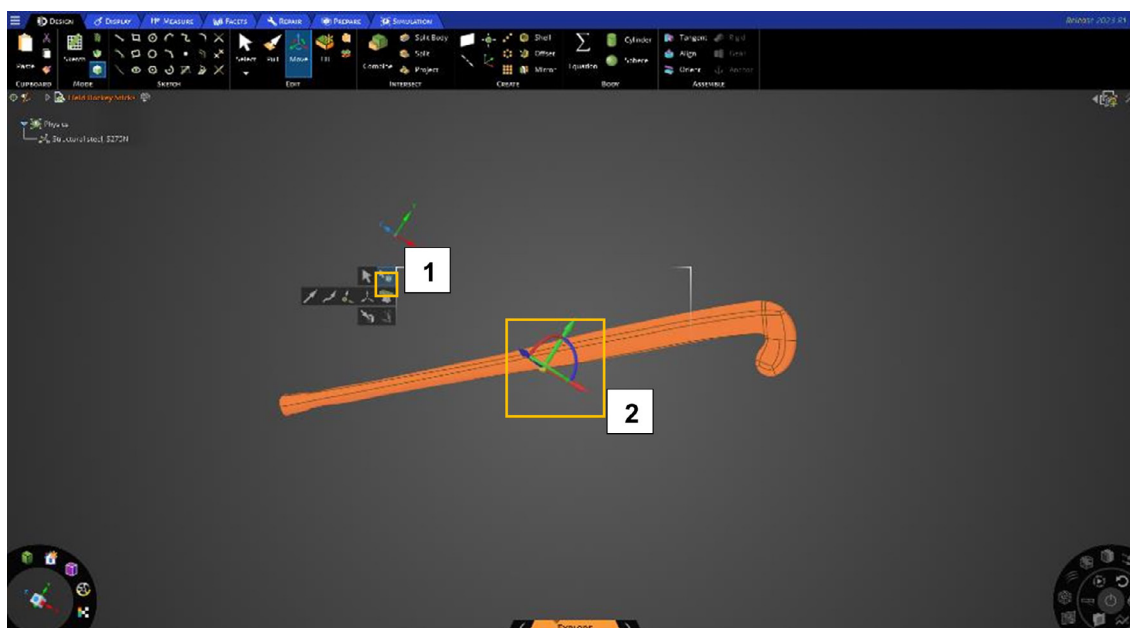

Figure 19: Image showing the move command options.
3. Select the “Select component” option (Fig. 19 (1)), and select the hockey stick, to enable it to be displaced. The triad in the center of the display (Fig. 19 (2)) is used to move and rotate the geometry relative to an axis.